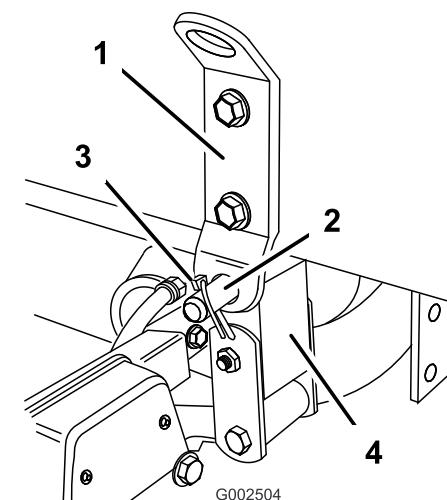

Figure 21
7. Install a clevis pin (3/4 inch) and two lynch pins to the pivot lug to secure the tank assembly to frame (Figure 21).
10. Check the alignment of the tank skid and the vehicle frame. If necessary, loosen the bolts securing the pivot lug to the tank skid frame slightly (Figure 21). Raise the tank assembly just enough above the vehicle frame to be aligned and lowered into proper position. Tighten the bolts on the pivot lug once the tank skid is aligned with the vehicle frame.